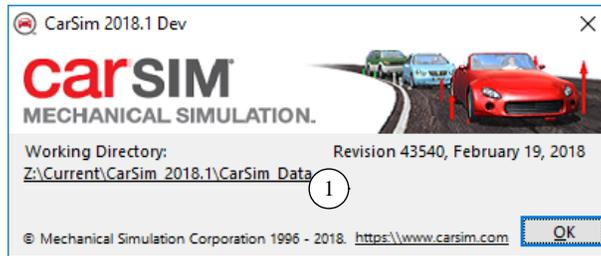

Figure 5. Use the “About” window to locate the current working directory.
1. Select the last item on the **Help** menu: **About CarSim** (or **TruckSim** or **BikeSim**). This shows a small window that gives the product name, version, date, and a link to the Windows Working Directory (1) (Figure 5). The working directory is also the current database for your VehicleSim product. It is underlined, indicating that it is a hyperlink to the folder on your machine.
5. Locate the `ABS` model file and duplicate it. For `CarSim`, the file is named `abs_CS9.mdl` (1); for `TruckSim` the file is named `ABS_TS9.mdl`; for `BikeSim` the file is named `abs_v90.mdl`. Change the name of the duplicate to `abs_tutorial.mdl` (2).
6. Go back to `CarSim/TruckSim/BikeSim`. Use `Alt-Tab` or click on a part of the window if visible. The **About** window (Figure 5) is probably still visible. If so, close it.